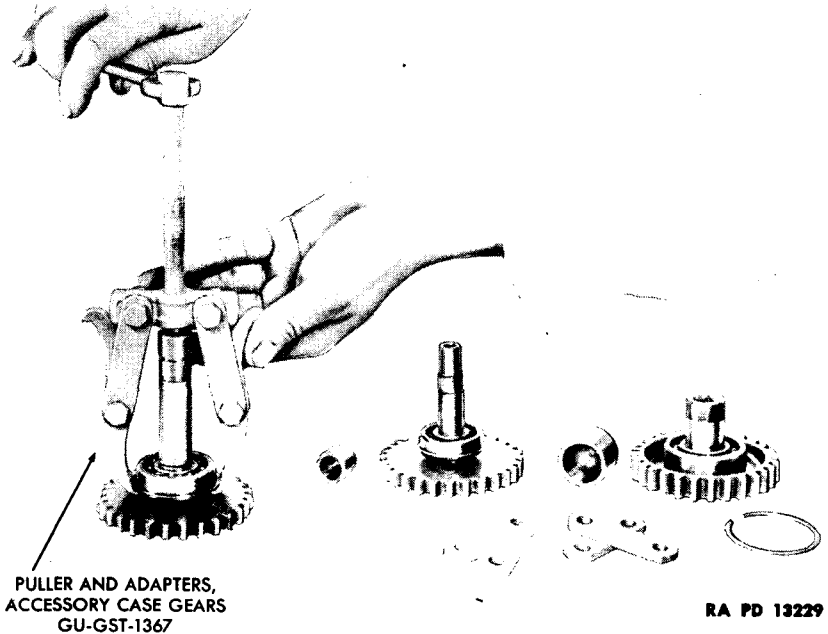

Figure 66—Removing Accessory Case Gear Bearings
(2) REMOVE FRONT BEARINGS (fig. 66).